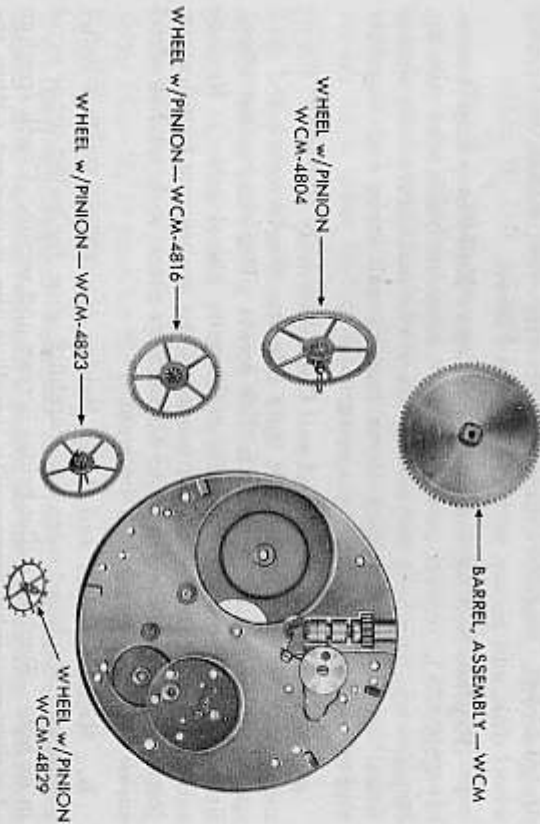

Figure 107 — Waltham Pocket Watch — Train Wheels and Barrel Assembly Removed
- p. Remove Train Wheels and Barrel Assembly (fig. 107). Using tweezers remove, in order, the center, third, fourth, and escape wheels. Remove barrel assembly.
d. **Replace Train and Barrel Assembly** (fig. 107). Place barrel assembly on the pillar plate. Replace escape, fourth, third, and center wheels.